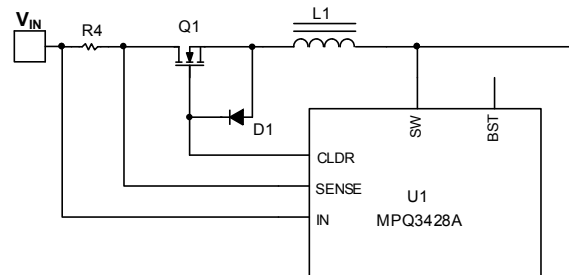

Figure 4: Gate Protection Diode for High Output Voltage Condition
3. **SQA:** The MOSFET should survive when conducting a current pulse that has a high level of V_{CL} (mV) / R_{SENSE} (mΩ) and lasts for C_{SS} (nF) x 0.7 (V) / 7 (μA) + 0.5ms.
4. **Gate-to-source voltage rating:** The positive gate-to-source voltage rating should be greater than 5.5V, while the negative voltage rating should be greater than the value of the output voltage. If the output voltage is too high and the MOSFET gate-to-source rating cannot meet the requirement, a diode from the source to the gate of the disconnecting MOSFET is recommended (see Figure 4).